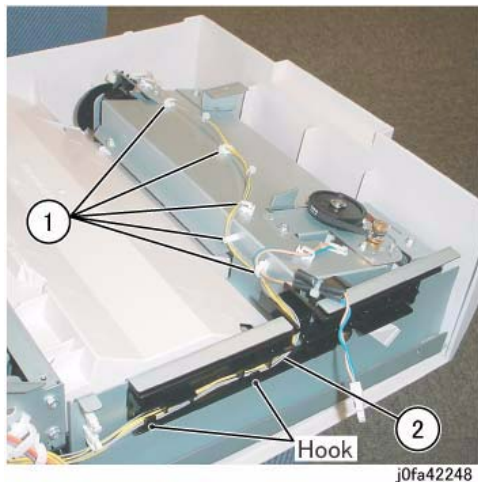

Figure 2 Disconnecting the Wire
10. Release the Clamps and the Hook to remove the wire (Figure 2):